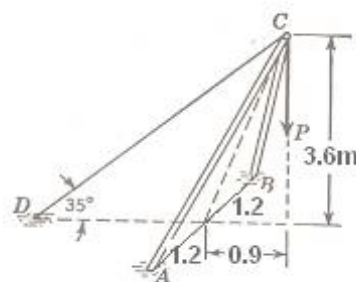

Figure 6
6. Calculate the tension (T) in the guy wire CD and the compression (S) in each strut of the shear leg shown in figure 6. if the vertical load $P = 100 \text{ kN}$. [16]